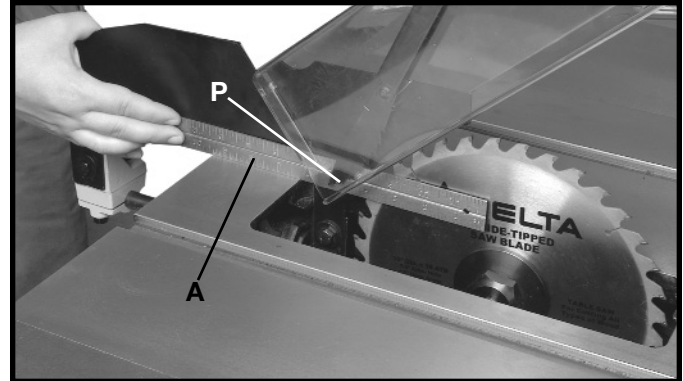

Fig. 21
11. Using a straight edge (A) Fig. 21, make certain the splitter (P) is aligned with the saw blade (B). Using a square (C) Figs. 22 and 23, make certain saw blade (B) Fig. 22, and splitter (P) Fig. 23, are 90 degrees to the table surface. Once you are certain the splitter is aligned to the saw blade and table, tighten all splitter mounting hardware and recheck alignment.